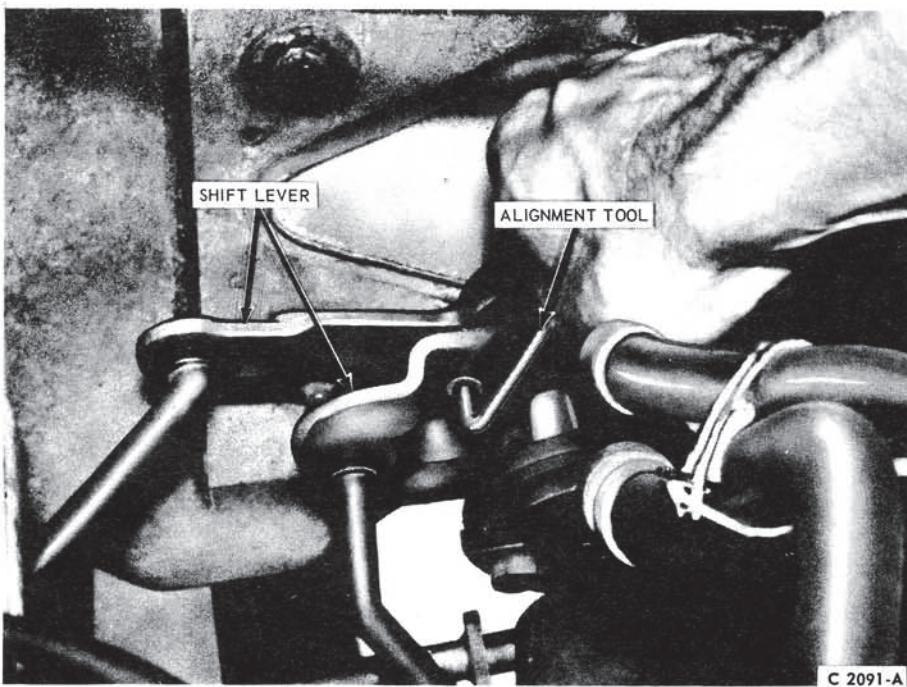

FIG. 4—Gearshift Linkage Adjustment—Typical
4. Insert a 3/16-inch diameter alignment tool through the first and reverse gear shift lever, the second and third gear shift lever and both holes in the lower casting (Fig. 4). An alignment tool can be made from 3/16 inch drill rod bent to an L shape. The extensions should be 1 inch and 2 inches from the elbow.